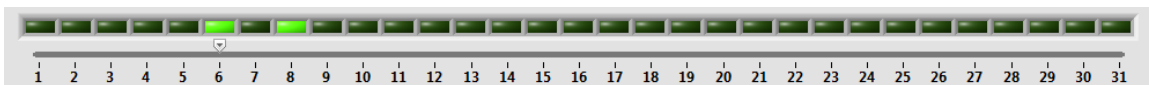

Figure 10
- 3.1. Select STORE/LOAD to LOAD (10). Refer to Figure 10.